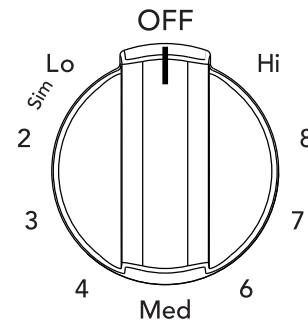

Figure 4: Surface control knob (back)
2. Push in and turn the surface control knob in either direction (Figure 4) to the desired setting (refer to the “Suggested radiant surface element settings” table, Table 1).
Start most cooking operations on a higher setting and then turn to a lower setting to finish cooking. The surface control knobs do not have to be set exactly on a particular spot. Use the graphics provided as a guide and adjust the control knob as needed (see Figure 4). A glowing red surface heating area extending beyond the bottom edge of the cookware indicates the cookware is too small for the surface heating area.